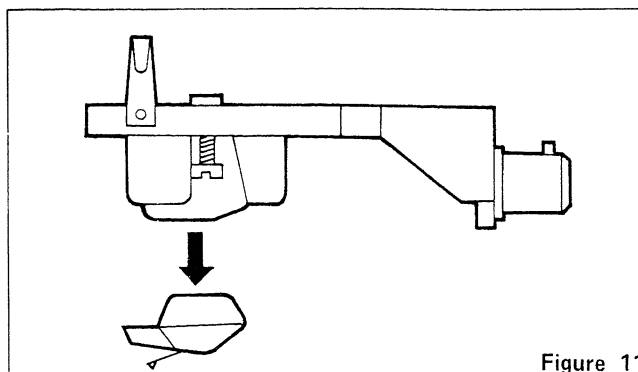

Figure 11
3. Pull the stylus out in the arrow direction, holding the stylus holder by finger (Refer to figure 11)